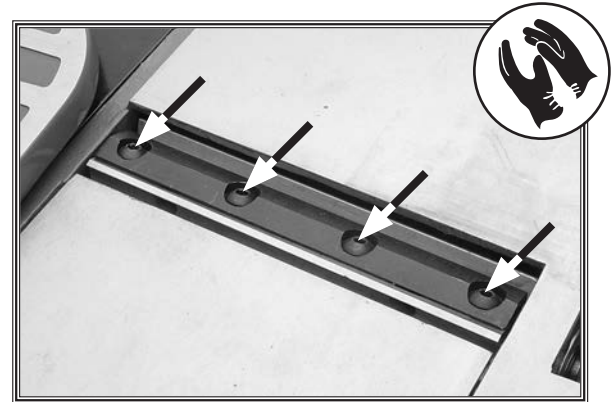

Figure 34. Cutterhead knife clamp screws.
5. Loosen (4) cutterhead knife clamp screws, as shown in **Figure 34**.